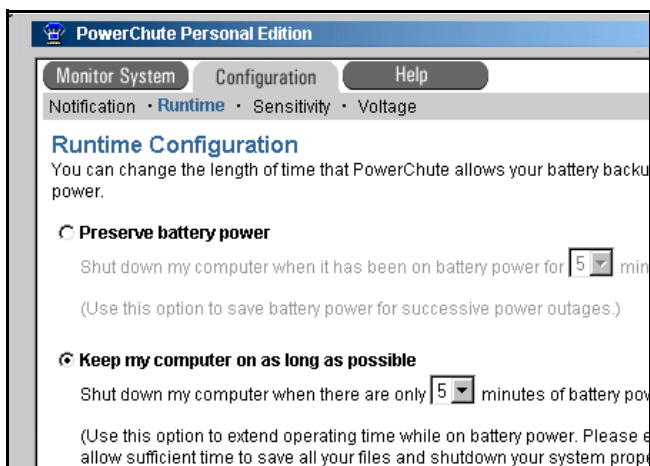

FIG. 3
3. Select the subtab called Runtime. Select "Keep my Computer on as long as possible" and choose 5 minutes from the drop down box. See FIG. 3.